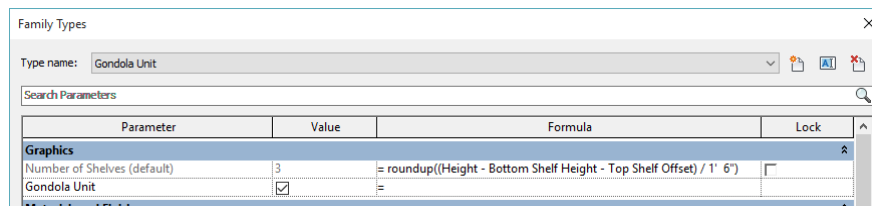

Figure 44
1. In the formula field next to Number of Shelves, input the formula shown in Figure 44: